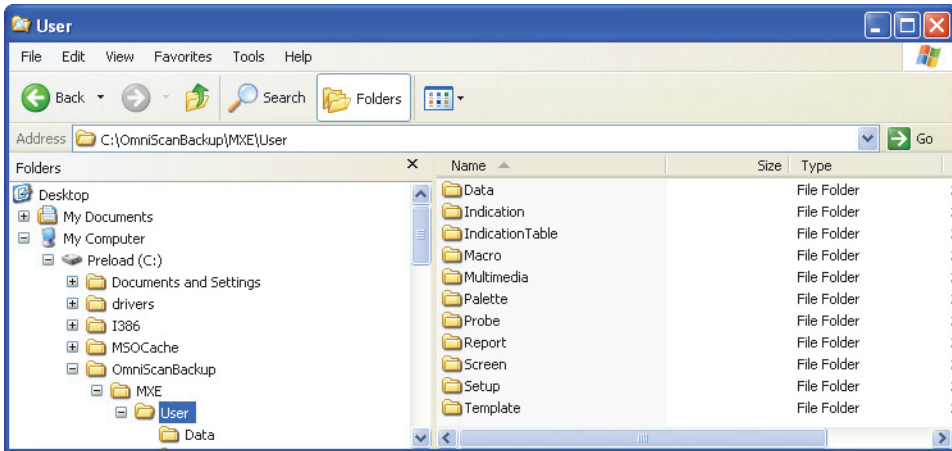

Figure 4-28 Selecting the User folder to recover
2. On your computer, using Windows Explorer, navigate to the backup folder you created using the procedure seen in section 4.5.1 on page 97, and then select the **User** folder corresponding to an application (**MXE** in the example of Figure 4-28 on page 102).